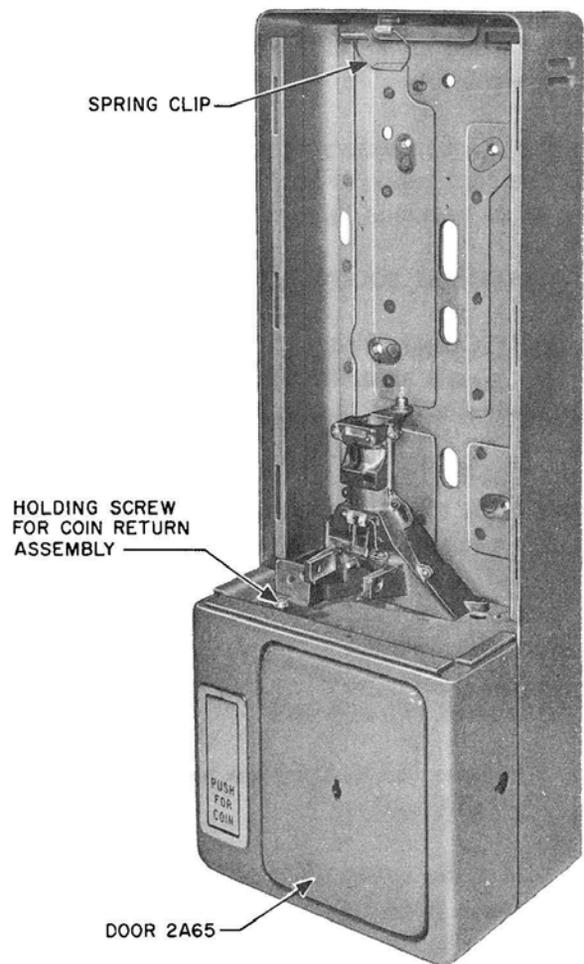

Fig. 5 – Mounting Plate Assembly
3.04 All components are mounted in the chassis assembly. (See Fig. 5.) The spring clip at the top of the set holds the coin chute and totalizer assembly in place. The coin return assembly can be removed by loosening the holding screw. (See Fig. 5.) The chassis assembly is removed by loosening the screw, lowering the assembly, and lifting out.